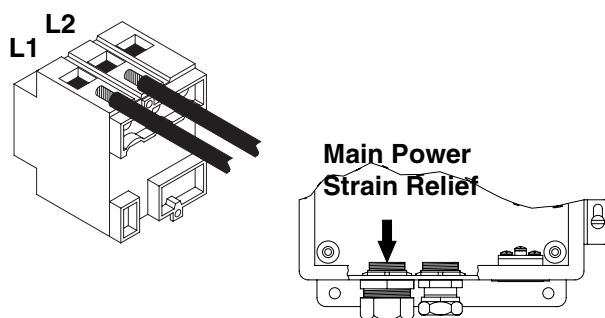

FIG. 3: Main Power Connection
- a. Feed power cord through strain relief in bottom of console. Connect power leads to terminals L1 and L2 of main disconnect. See FIG. 3.